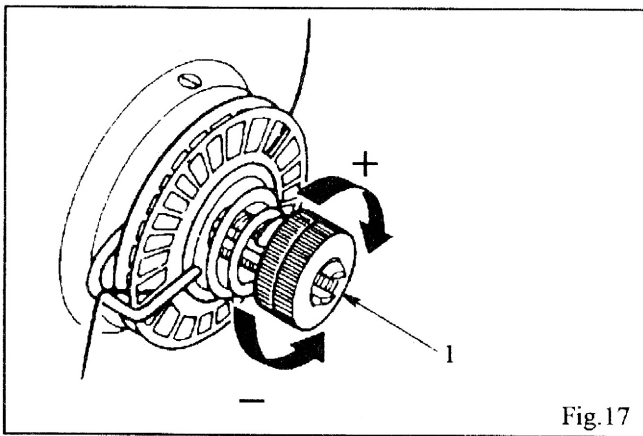

Fig.17
Regulate needle thread tension with tension regulating thumb nut (1) as shown in Fig. 17.